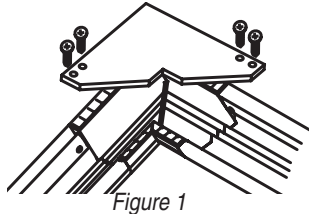

Figure 1
- ① Place corner gusset over frame and attach using screws (provided) (see Fig. 1).
- ② Repeat for other three corners.